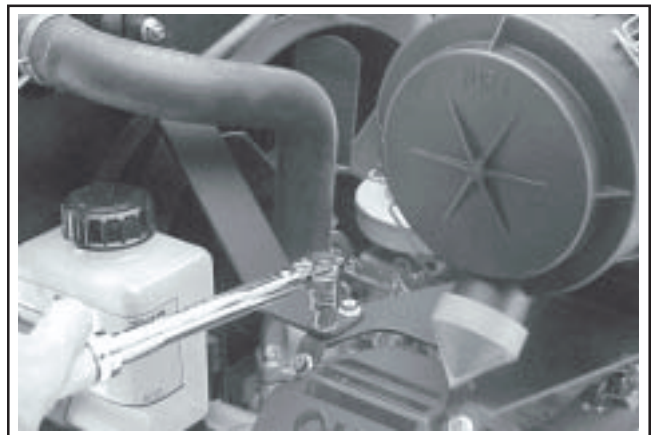

Figure 11-117. Torquing Upper Bracket Screws.
7. Hold the radiator assembly in position; then torque the screws securing the two upper radiator supports to **9.9 N·m (88 in. lb.)**. See Figure 11-117.